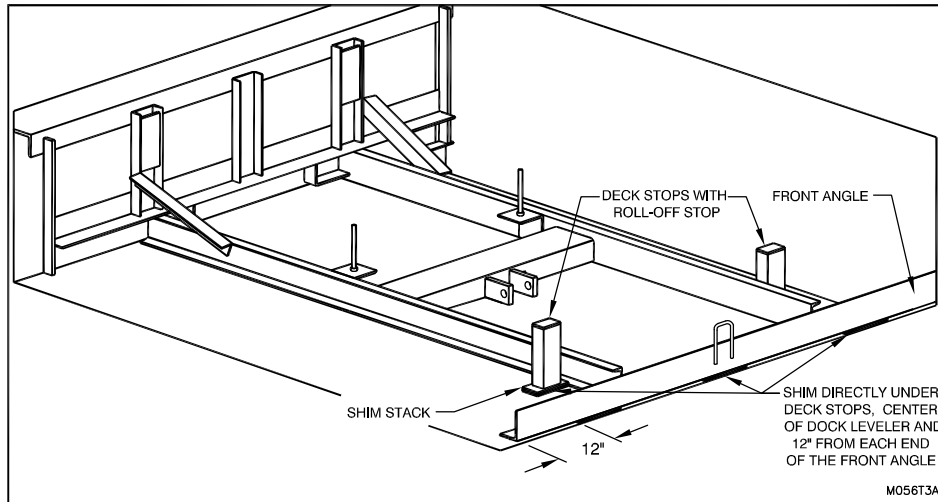

Figure 17: Hydraulic Dock Roll-Off Stop Front Shims
2. ☐ Lower dock leveler to the stored position and shim front frame under the two deck stops, shim in center of front angle and 12" from each end of the front angle until the deck is flush with the top of the front curb angle and the floor. (See "Figure 17: Hydraulic Dock Roll-Off Stop Front Shims" on page 14 for shims placement) Tack weld into position.